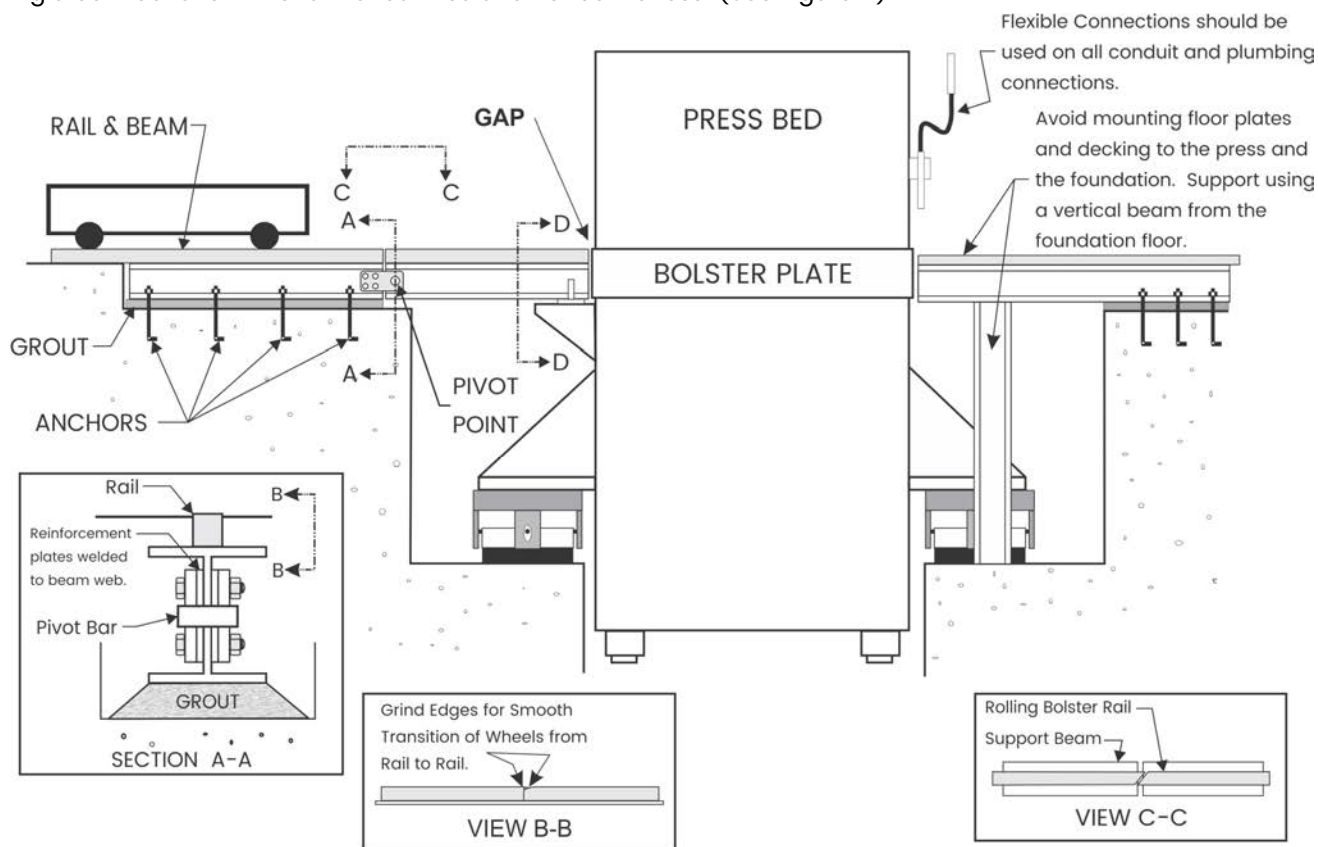

FIGURE 6
21. There should not be any solid connections between the machine and the foundation or building structure. Flexible connections are recommended for all plumbing and electrical conduit. Floor plates, walkways, railings, feeds, rolling bolster rails, etc. should *not* be attached to *both* the machine and the floor, foundation or building. Rigid connections will “short-circuit” isolation effectiveness. (See Figure 6).